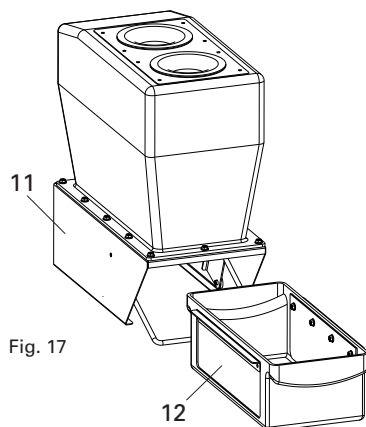

Fig. 17
- After the dust had some time to settle, pull down the lever and slide out the dustbin carefully (Fig.17)
- ① first of all, turn the two levers upwards (fig. 17).